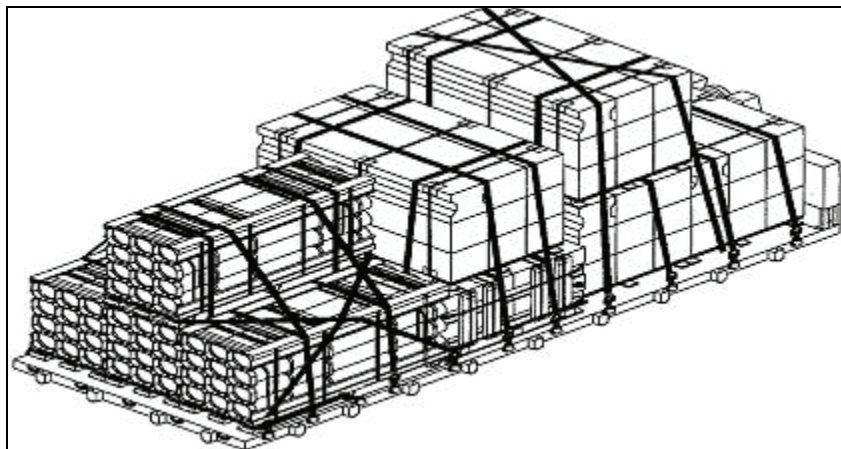

Figure 3-30. Tiedown on Flatrack
5. Secure ammunition to PLS flatrack using web straps (see Figure 3-30).